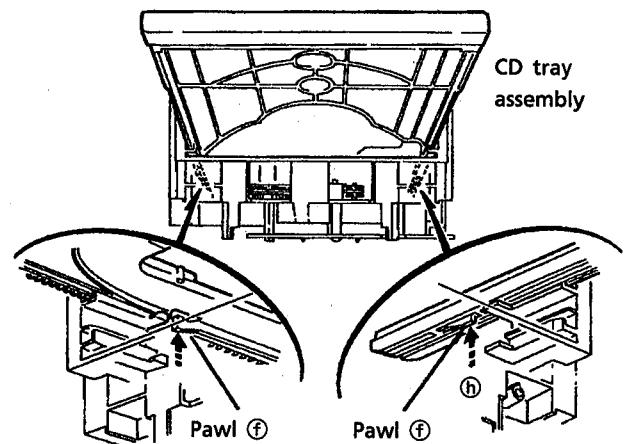

Fig. 35
14. Press 2 pawls (f, f') located rear side of the CD tray ass'y according to an arrow⑥ to remove the CD tray ass'y. (See Fig. 35.)